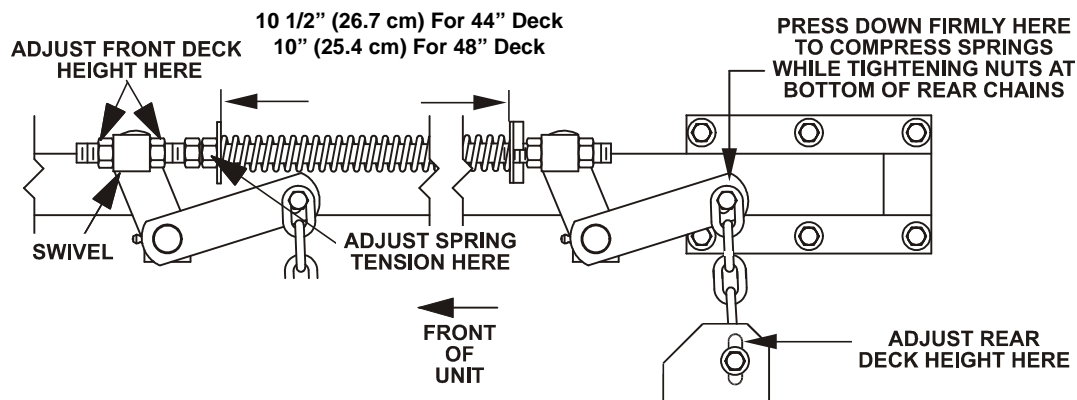

FIGURE 11
- c) Check tire pressure of all four (4) tires. If needed, adjust to 13 psi (90 kPa).
- e) Raise the deck to the 4.5" (11.4 cm) height position and take as much force as possible off of the two large deck lift springs by loosening the nuts at the front of each spring. See Figure 11.
- g) Loosen the two (2) bottom chain bolts in slots at the rear of the cutting deck. Loosen four (4) nuts which secure front swivels (two per side), until front chains are loose and front of deck is supported by the 1-1/8" (2.9 cm) block. Do not loosen front chain hardware.
- k) Raise deck lift lever to the 4.5" (11.4 cm) cutting height position (also transport position, See Figure 6. Adjust spring compression until proper distance is obtained between the two washers (See Figure 11) by turning the nut at the front of each spring. Lock nuts in position with jam nuts.